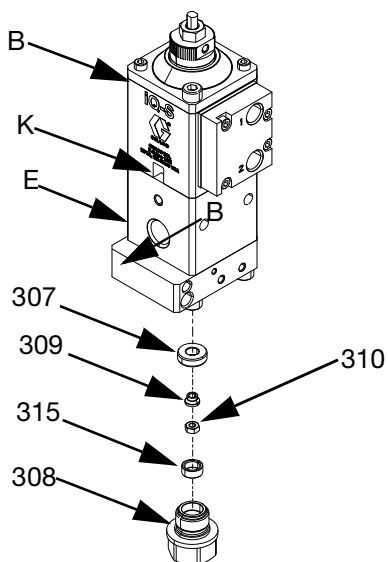

FIG. 10
3. If using a Snuff-Back valve (iQ-S), the Snuff-Back tip (309) must be removed before the Air Section (B) can disconnect from the Fluid Section (E). See FIG. 10..